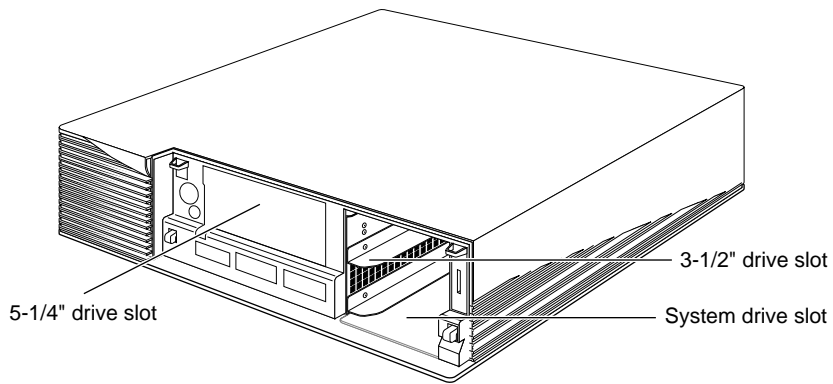

Figure 6-3 Locating the Drive Slots in the Front of the Chassis
1. Choose a slot in which to install the drive. The slots are shown in Figure 6-3.